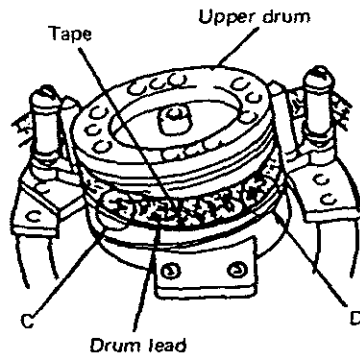

Fig. 22 Drum lead check - 2
4. Observe the tape as it becomes wrapped around drum during loading and as it separates from the drum during unloading. Confirm absence of damage to the tape at points C and D as shown in Fig. 22 and absence of contact noise between head tips and tape edge.